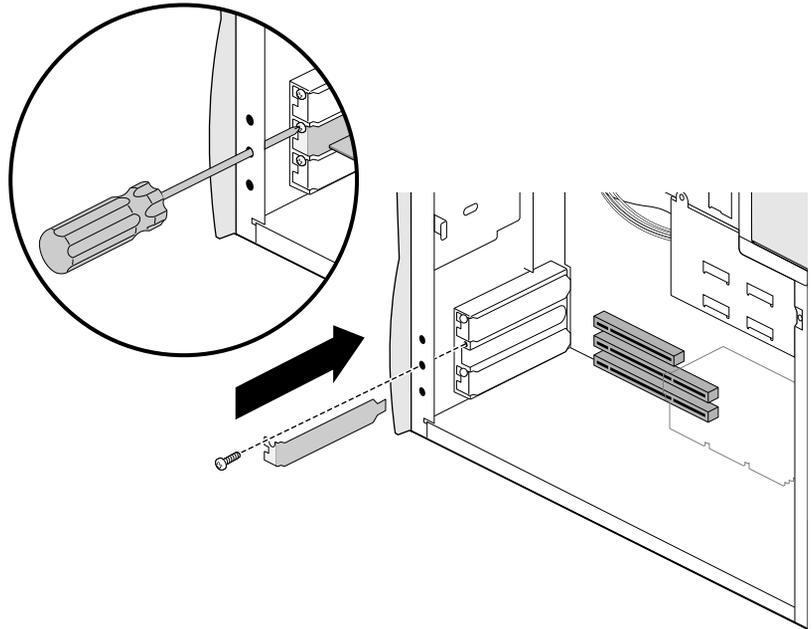

Figure 5-4 Installing a Blank Panel in a PCI Slot
6. If you are not installing another card in the slot, install a blank panel, as shown in Figure 5-4.